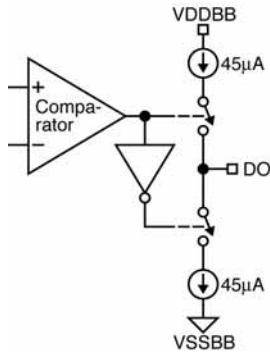

Figure 4. DO Pin
The output stage for the digital output (DO) is shown in Figure 4. The output is a $45\mu\text{A}$ push and $45\mu\text{A}$ pull switched-current stage. This output stage is capable of driving CMOS loads. An external buffer-driver is recommended for driving high capacitance loads.